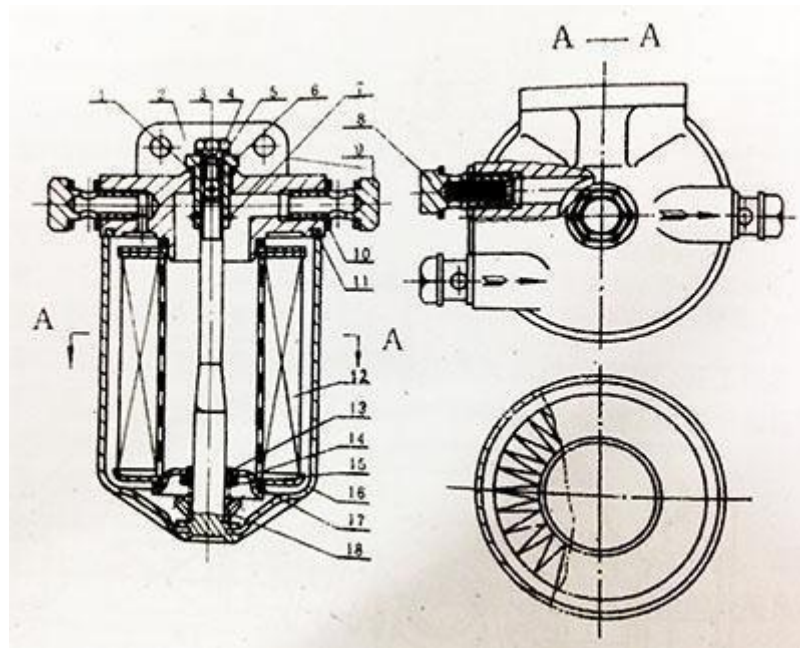
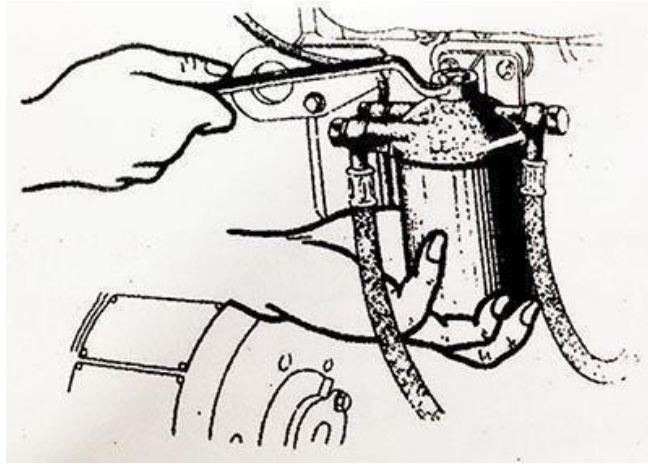
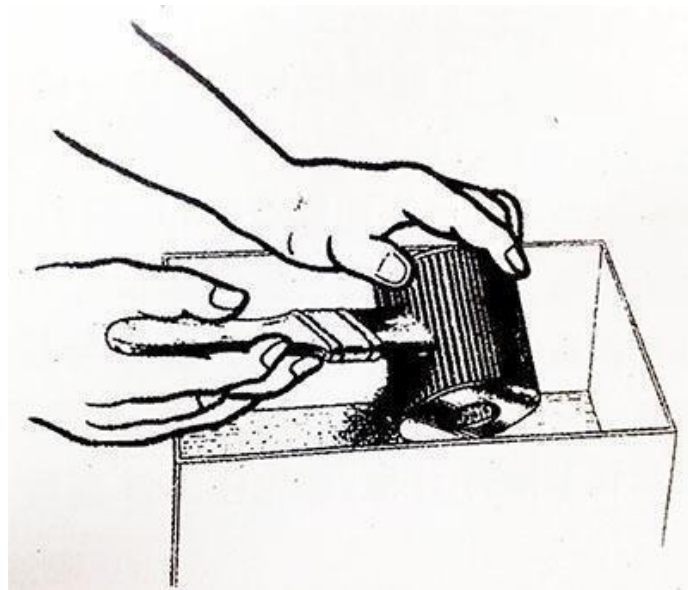

Figure1:Fuel filter assembly section
Figure2:Fuelfilteroverhauling
Figure3:Cleaningfuelfilterelement
- Figure 1 is a schematic plan view of an injection system according to the present invention;
- Figure 2 is an enlarged cross-section along line II-II in Figure 1; and
- Figure 3 is a partial enlarged cross-section of a detail of the system in Figure 2.
As Figure 1 illustrates, 1 indicates as a whole a fuel injection system for an endothermic engine 2 of the type which has a plurality of cylinders distributed in two rows. The engine 2 comprises a base 4 in which there are defined two parallel axes Y and Z; along the
axis Y there is provided a first plurality of cylinders 3a, and along the axis Z there is provided a second plurality of cylinders 3b. Each cylinder 3a and 3b (Figure 2) accommodates a respective piston 5, and has in its head a respective intake valve 6.
#With reference to Figures 1 and 2, the system 1 comprises:
With reference to Figure 2, the injectors 11 have a head 16, in which there is recessed the fuel inlet mouth, which is accommodated in a respective seat 17 recessed in the fuel manifold 7, and a nozzle 18 (Figure 3) which is accommodated in a seat 21 recessed along the respective fuel supply pipe 8. The fuel manifold 7 is mounted to the side of the base 4, and in particular in the vicinity of the axis Y, such that the pipes 8 which supply the cylinders 3a have a length which is shorter than that of the pipes 8 which supply the cylinders 3b. The injectors 11 have a respective longitudinal axis A which converges towards an area of the base 4 in a median position between the axes Y and Z. The axes A of all the injectors 11 are defined on a single plane, i.e. all the injectors 11 have the same angle relative to the longitudinal axis X of the fuel manifold 7. The air supply pipes 15 lead to a respective fuel supply pipe 8, inside which the air and fuel are mixed in order to obtain the air-fuel mixture which the cylinder 3a, 3b will take in by means of the valve 6 during the intake stage.
With reference to Figure 3, the nozzle 18 of the injector 11 has a plate 22 in which there is provided an injection hole 23 defined along an axis B which converges on the axis A according to an angle α ; the
With reference to Figure 2, the injectors 11 which supply the cylinders 3a are oriented differently, and in particular are rotated around the axis A by 180° relative to the injectors 11 which supply the cylinders 3b. The orientation of the injectors 11 which supply the cylinders 3a, and the angle α of the fuel jet relative to the axis A, cause the fuel jet to strike fully the valve 6 of the cylinders 3a. Whereas the orientation of the injectors 11 which supply the cylinders 3b and the angle α of the fuel jet relative to the axis A, cause the fuel jet to strike fully the valve 6 of the cylinders 3b, this latter solution being illustrated in broken lines in Figure 3.
The fuel filter of diesel engine is mainly composed of three parts: filter element, the shell and filter base (As shown in Figure 1). All models are universal except for the overflow valve that has two structures. Choosing C0810A or C0810B filter should be on the basis of different models. For the 12 cylinder V type diesel genset, it should be installed in parallel with each one of C0810A and C0810B.
The fuel filter of the diesel engine is fixed on the engine body and bracket with two M8-6H screws. If users find that the fuel supply is not smooth, it is possible that the filter element is plugged. At the moment, you should dump the fuel oil. You can directly loosen the pull rod nut of diesel generator set, remove the shell, and take out the filter cartridge (As shown in Figure 2). After the filter element is dipped into gasoline or diesel oil, you can gently wash the dirt off with brush (As shown in Figure 3). If the filter cartridge is broken or hard to clean, it must be renewed. Then install it as shown in Figure 1 and inject the clean fuel.